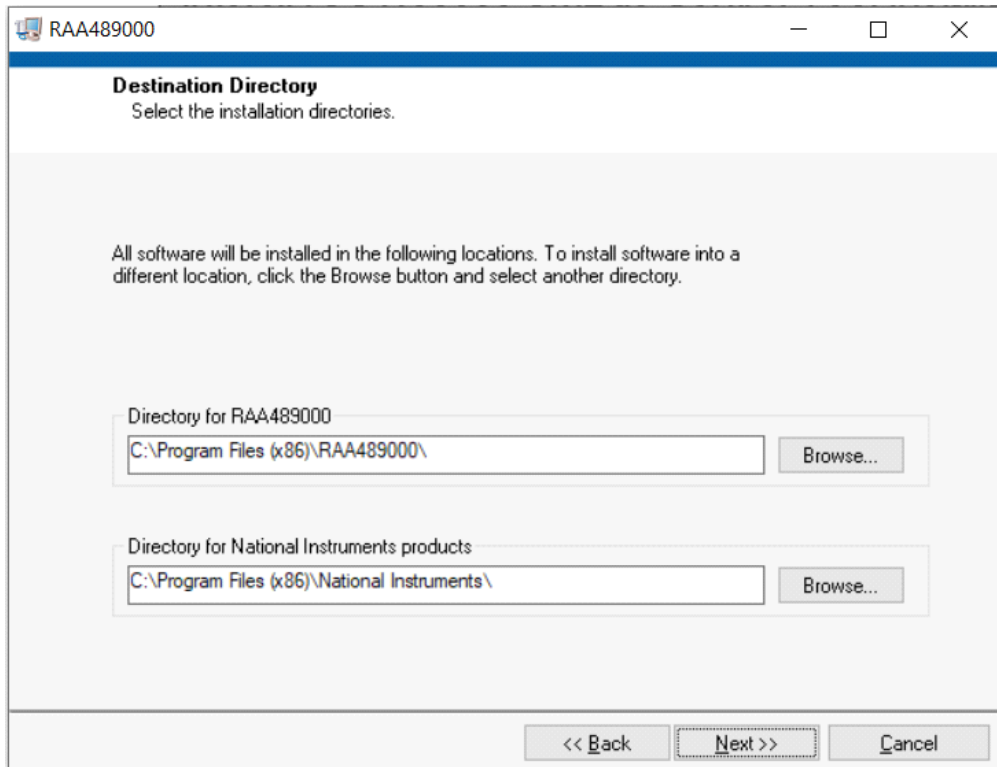

Figure 3. RAA489000 Control Software Installer
- a. The window shown in Figure 3 appears. Click **Next**.